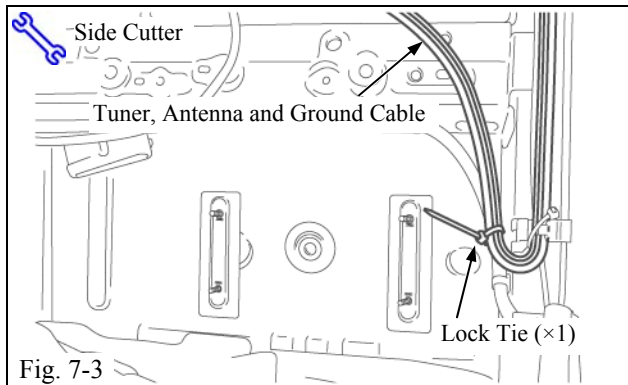

Fig. 7-3
- (1) Tie and secure the cables using one (1) lock tie at the point where the three cables join. (Fig. 7-3)